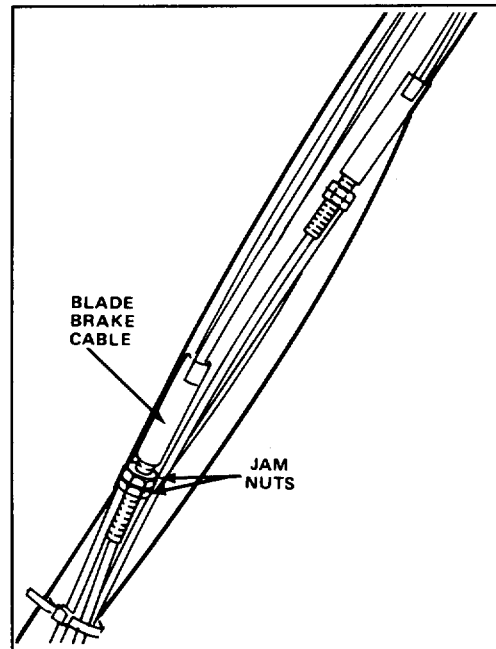

Figure 23
5. To adjust, loosen bottom jam nut on blade brake cable (Fig. 23) and adjust top jam nut until spring dimension is as near as possible to but not less than 1". (See note below.)